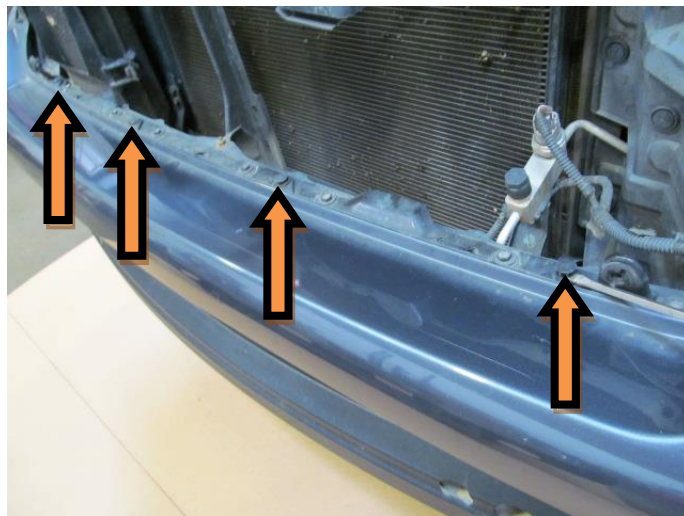

FIGURE 6:
5. REMOVE 4 CLIPS IN THE CENTER OF OEM BUMPER. SEE FIGURE 6 AND FIGURE 7.